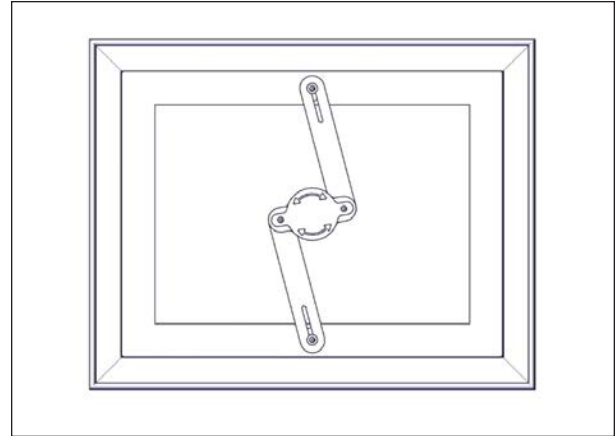

FIGURE 84: INSIDE HANDLE
1. Turn the red handle by a quarter turn in either direction to retract the arms, see Figure 84.